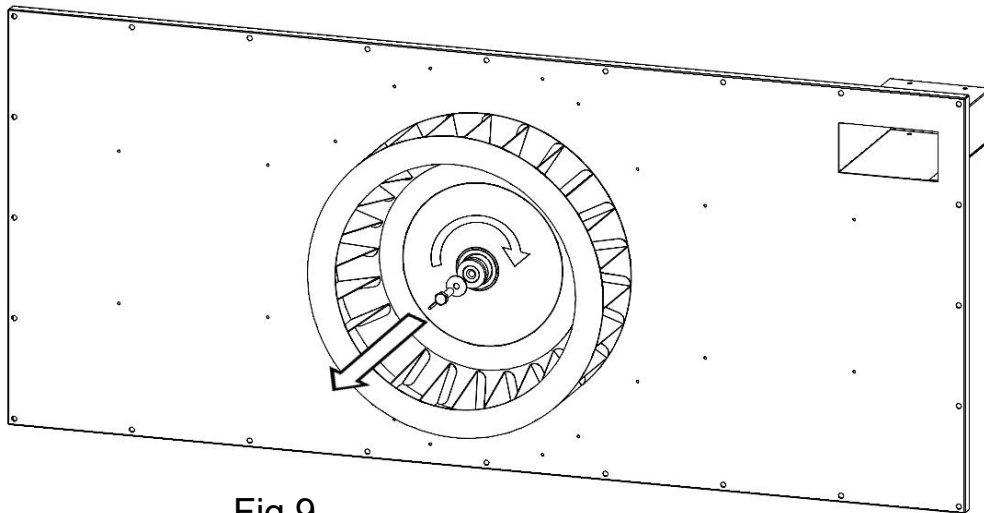

Fig.9
- 7.Remove safety pin and the bolt mounting the fan (Fig.9).
Alternatively, tapping on the keypad symbol will take you to the screen for directly selecting the chosen value (Fig.9). Confirm with a tick or flag; to cancel, press 'X' to cancel.